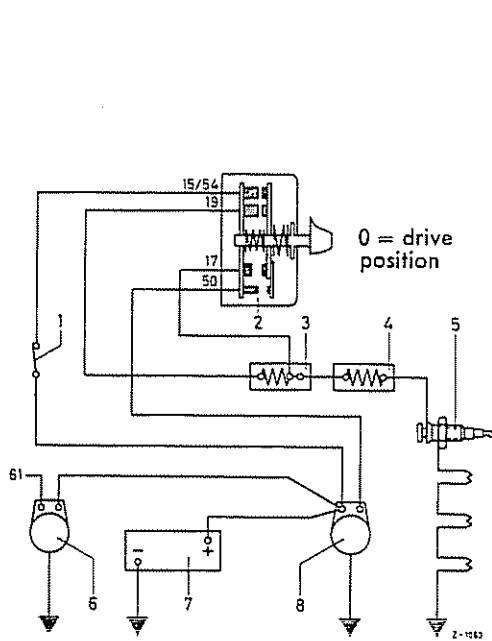

Fig. 15-33/1
Fig. 15-33/1 shows the wiring diagram for the individual components involved in the starting process. In this wiring diagram the glow plug starter and stop switch is shown in its drive position (0).